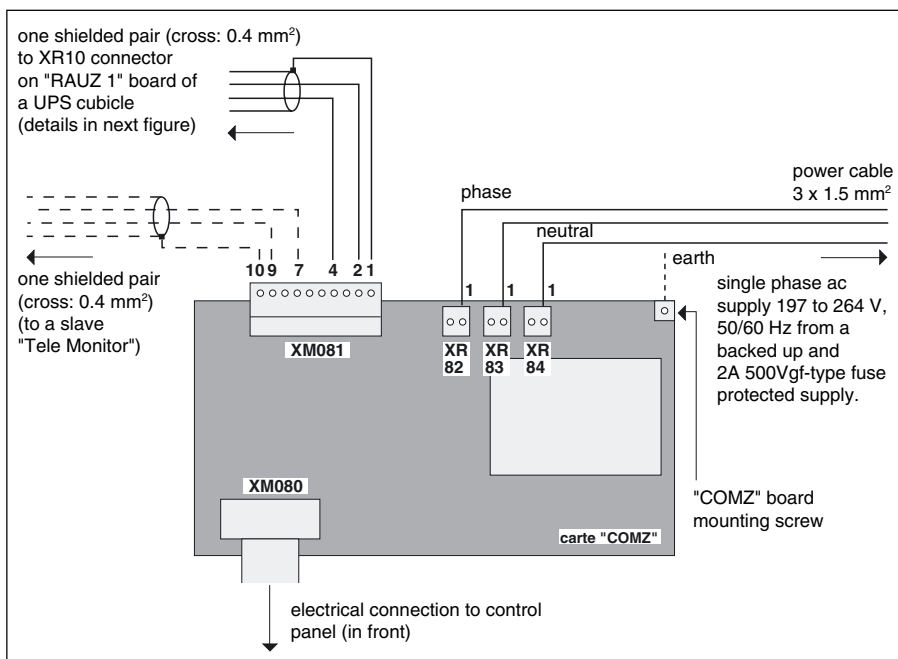

Fig. 7
- ▶ make the "COMZ" board connections using XR081 through XR84, as described in the next section (see figure 7);
note: the earth wire of the "Tele Monitor" supply can be connected to the "COMZ" board mounting screw (using an M4 cable lug) located near terminal block XR84 (figure 7). Terminal 2 of terminal XR82, XR83 and XR84 can be used to power a second "Tele Monitor".